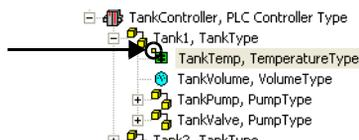

Figure 34. Icon Indicating Individual Signal Settings
13. The  icon indicates that the process signal now has individual signal settings, see also Figure 34.